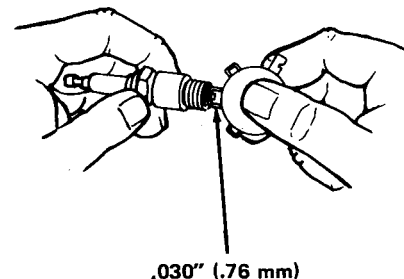

Figure 11. Clean or Replace Spark Plug (100-Hour Care)
1. Engine fails to start.	<ul style="list-style-type: none"> <li>A. Out of fuel. Fill fuel tank.</li> <li>B. Choke not on. Pull choke out fully and set throttle lever at half speed.</li> <li>C. Spark plug wire off or loose. Install fully.</li> <li>D. Engine flooded. Push choke in fully and try starting engine again.</li> <li>E. Spark plug or points faulty, fouled, or incorrectly gapped. See figure 11 and your engine manual.</li> <li>F. Water in fuel. Drain tank and refill with fresh fuel.</li> <li>G. Old, stale gas. Drain tank and refill with fresh fuel.</li> </ul>
2. Engine starts hard or runs poorly.	<ul style="list-style-type: none"> <li>A. Fuel mixture too rich. Be sure choke is off. Clean air filter.</li> <li>B. Spark plug or points faulty, fouled, or incorrectly gapped. See figure 11 and your engine manual.</li> <li>C. Carburetor needs adjustment. See your engine manual.</li> </ul>